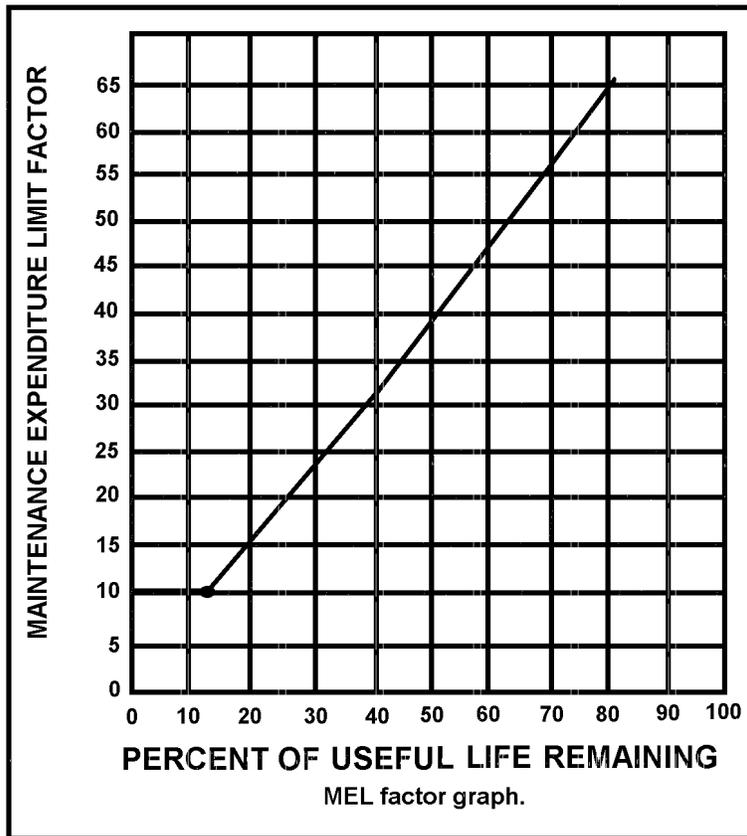

Figure 3-20
- c. Use the chart at Figure 3-20 to determine the MEL factor. Read up vertically from the percent of useful life remaining to a point of intersection with the baseline.